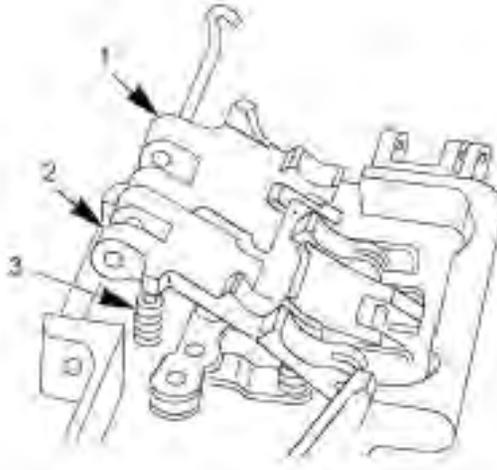

Figure 55. Front & Rear Cartridge Retaining Pawls, Springs.
27. Place together front (Figure 55 Item 1) and rear (Figure 55, Item 2) cartridge retaining pawls and position on springs (Figure 55, Item 3).